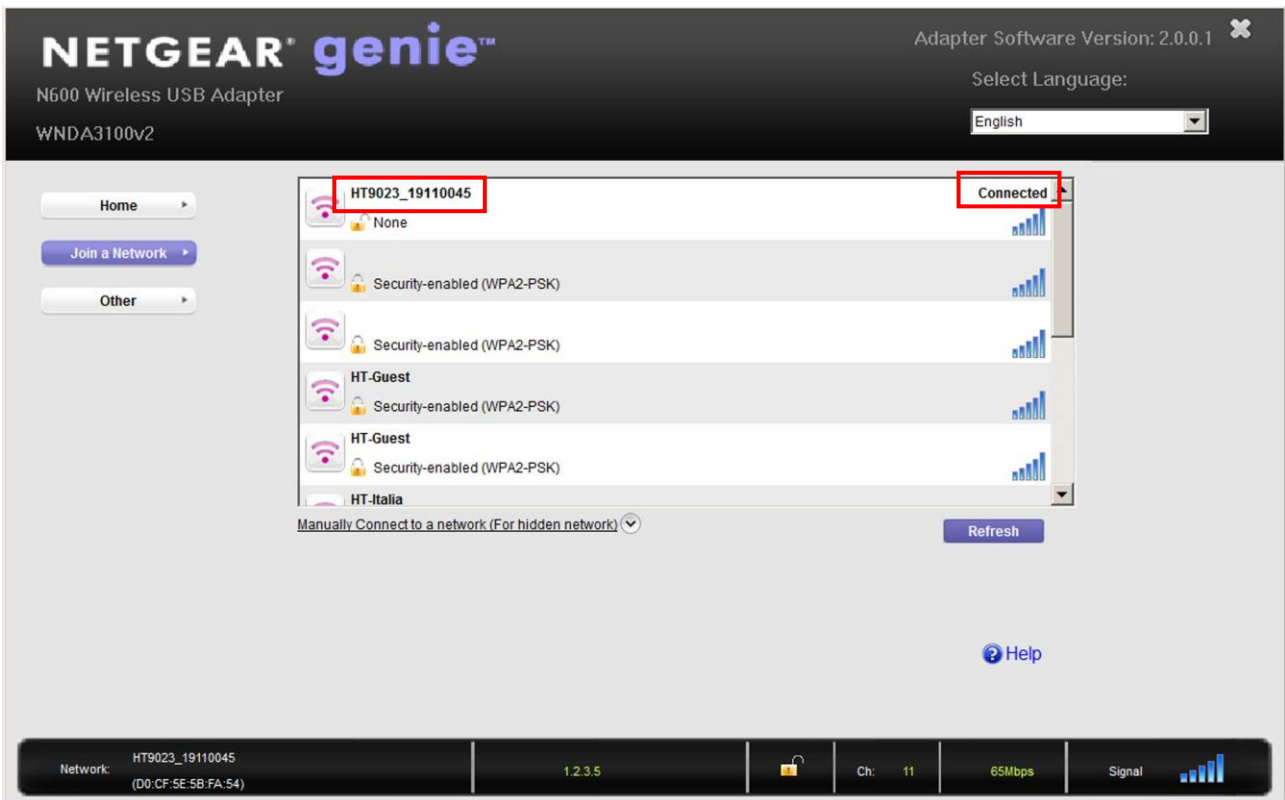

Fig. 15: WiFi connection of instrument to PC (example)
5. Search for the “HT9023\_xxxxxxxx” instrument in the WiFi device included on the PC and connect it as shown **as an example** in the following Fig. 15